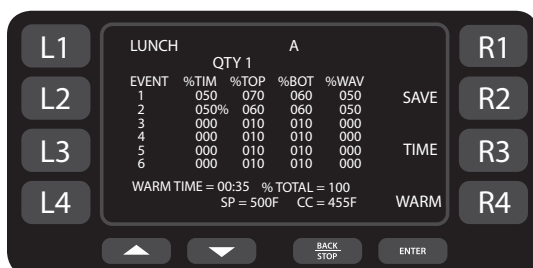

Figure 26: Recipe Edit Screen
6. From the “Recipe Edit” screen (Figure 26), edit the food group name: